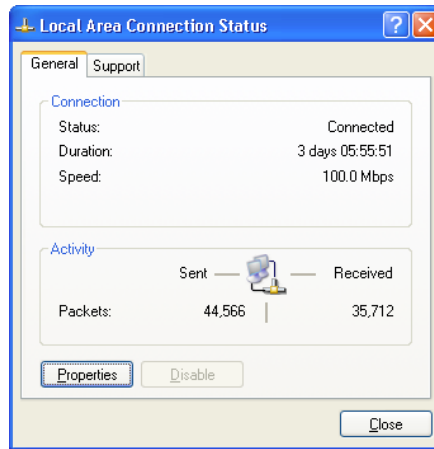

Figure 7. The Local Area Connection Status Dialog Box
2. In the panel labeled LAN or High-Speed Internet, double-click the Local Area Connection icon. The Local Area Connection Status dialog box appears (Figure 7).